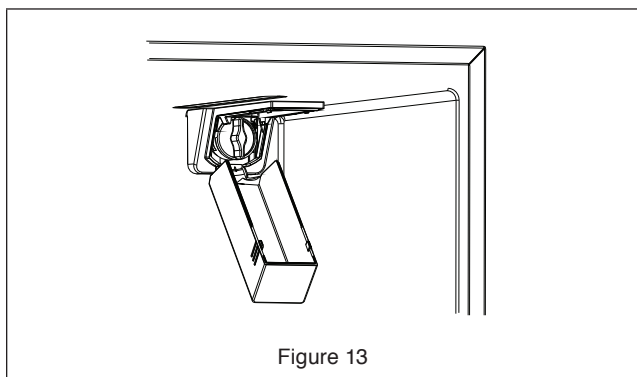

Figure 13
2. Then rotate the dustproof plug counterclockwise and remove the dustproof plug. See Figure 13.